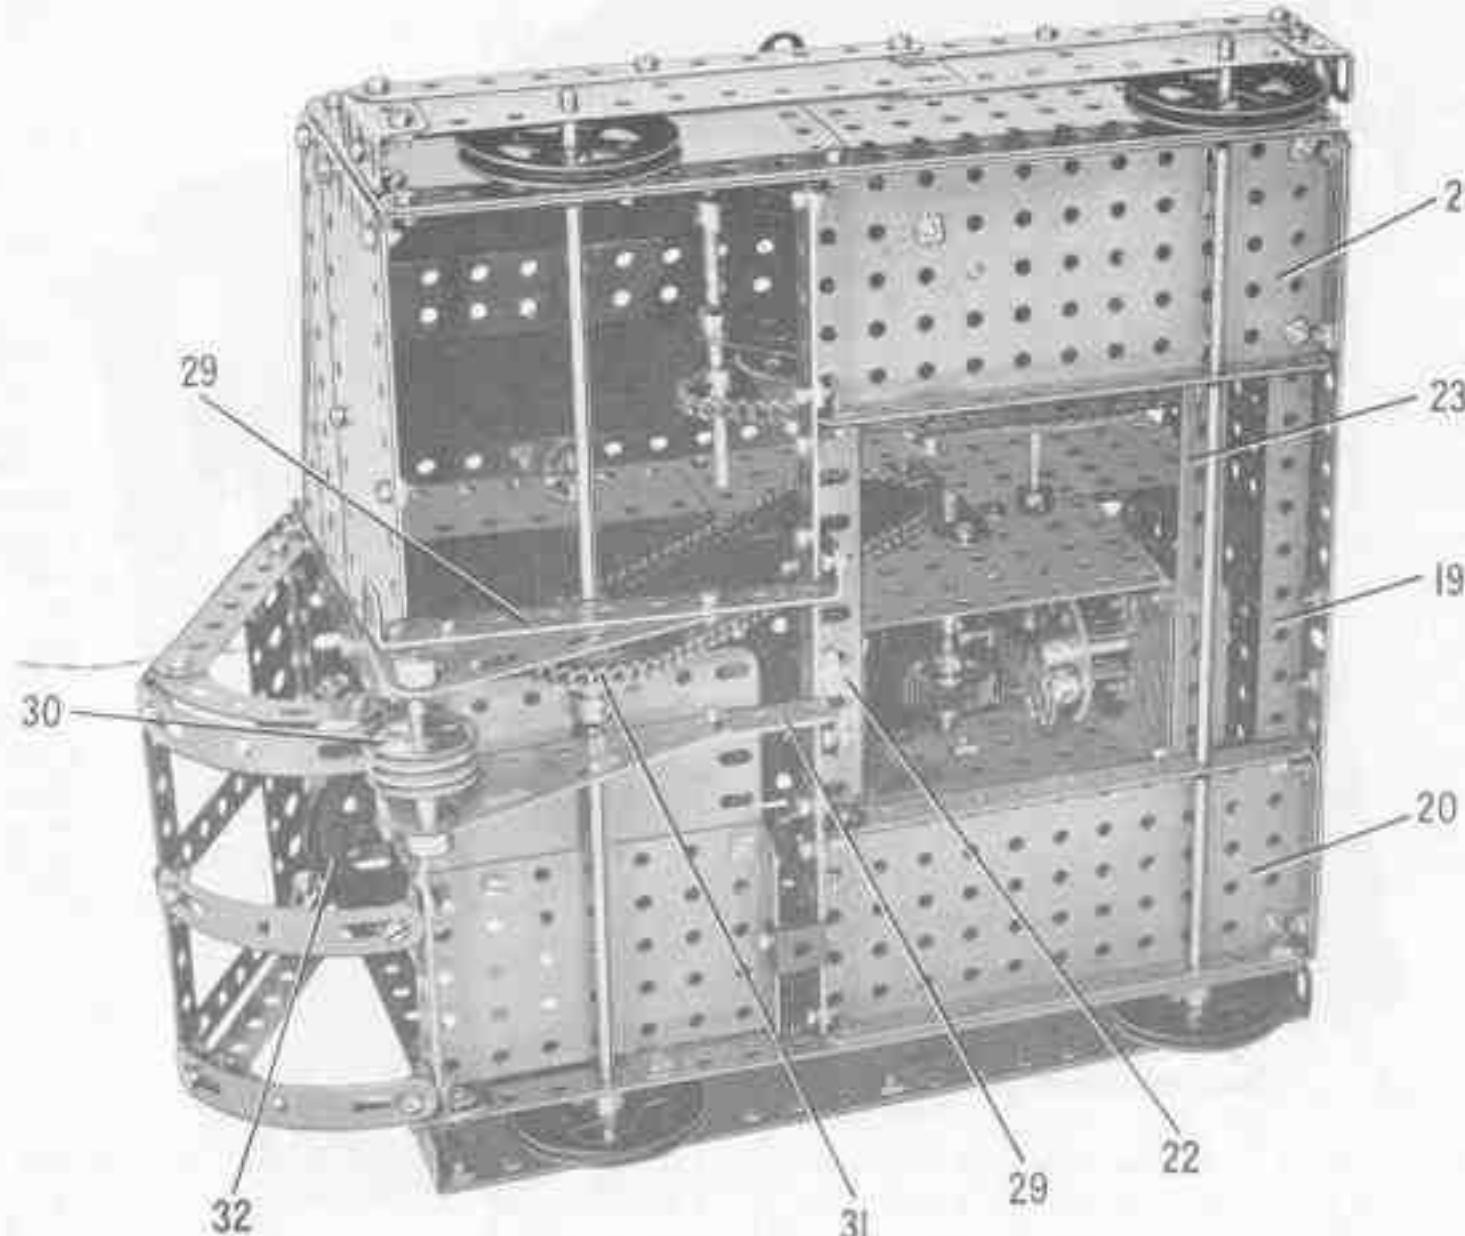
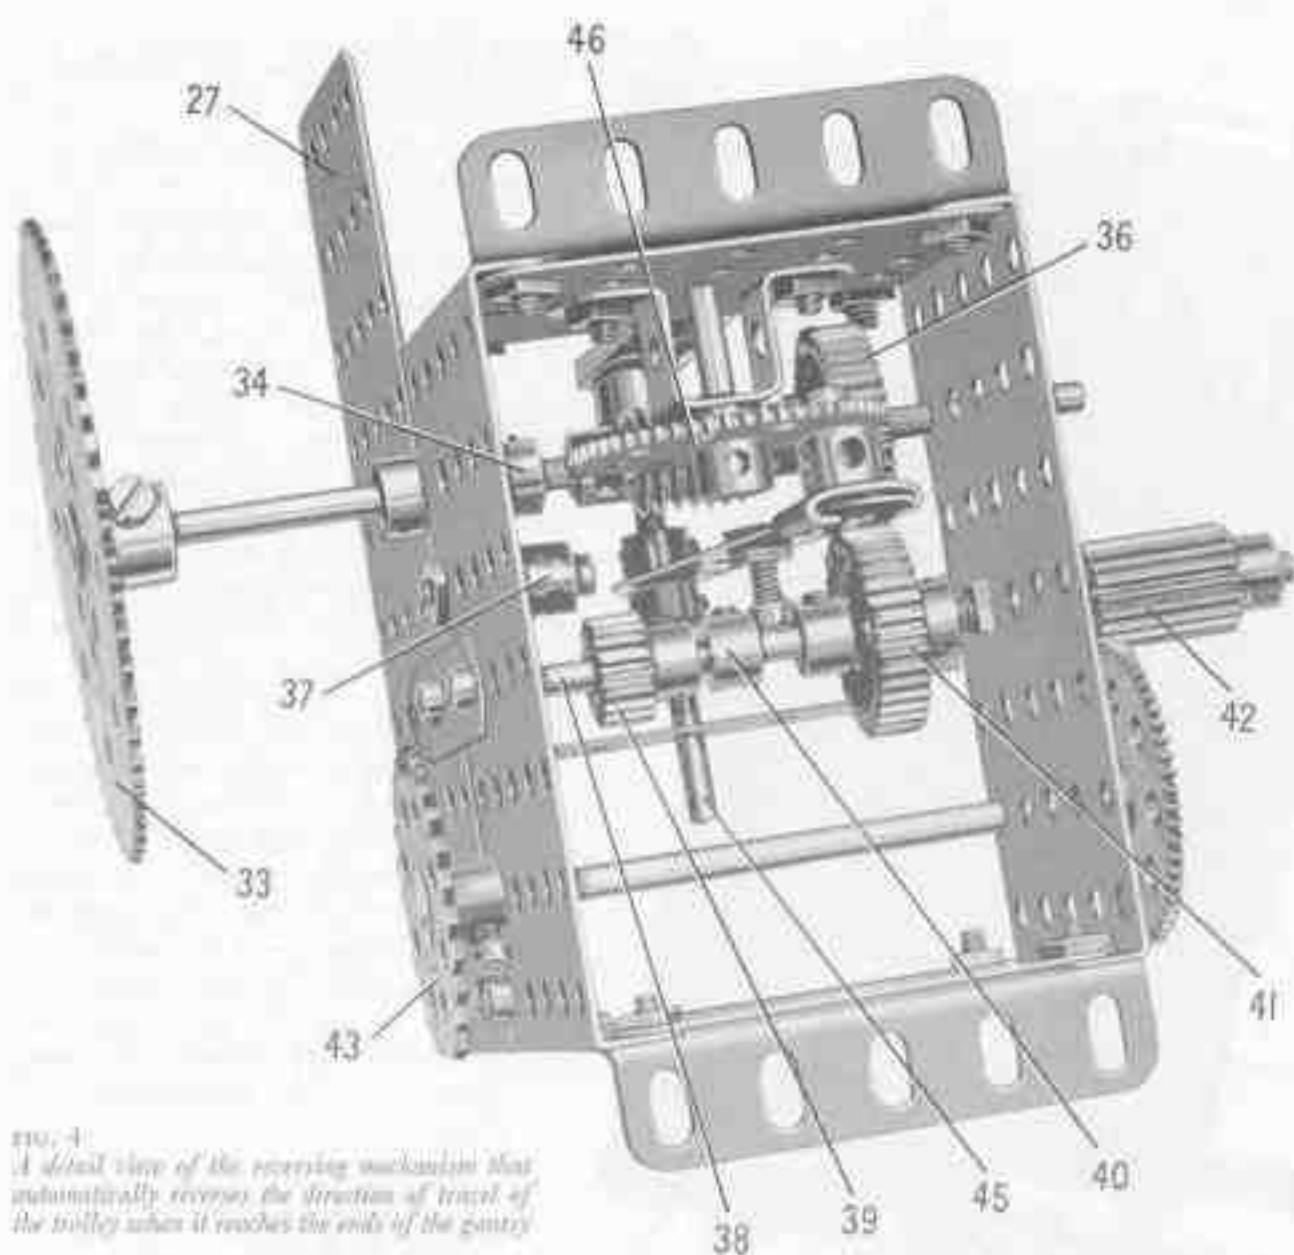
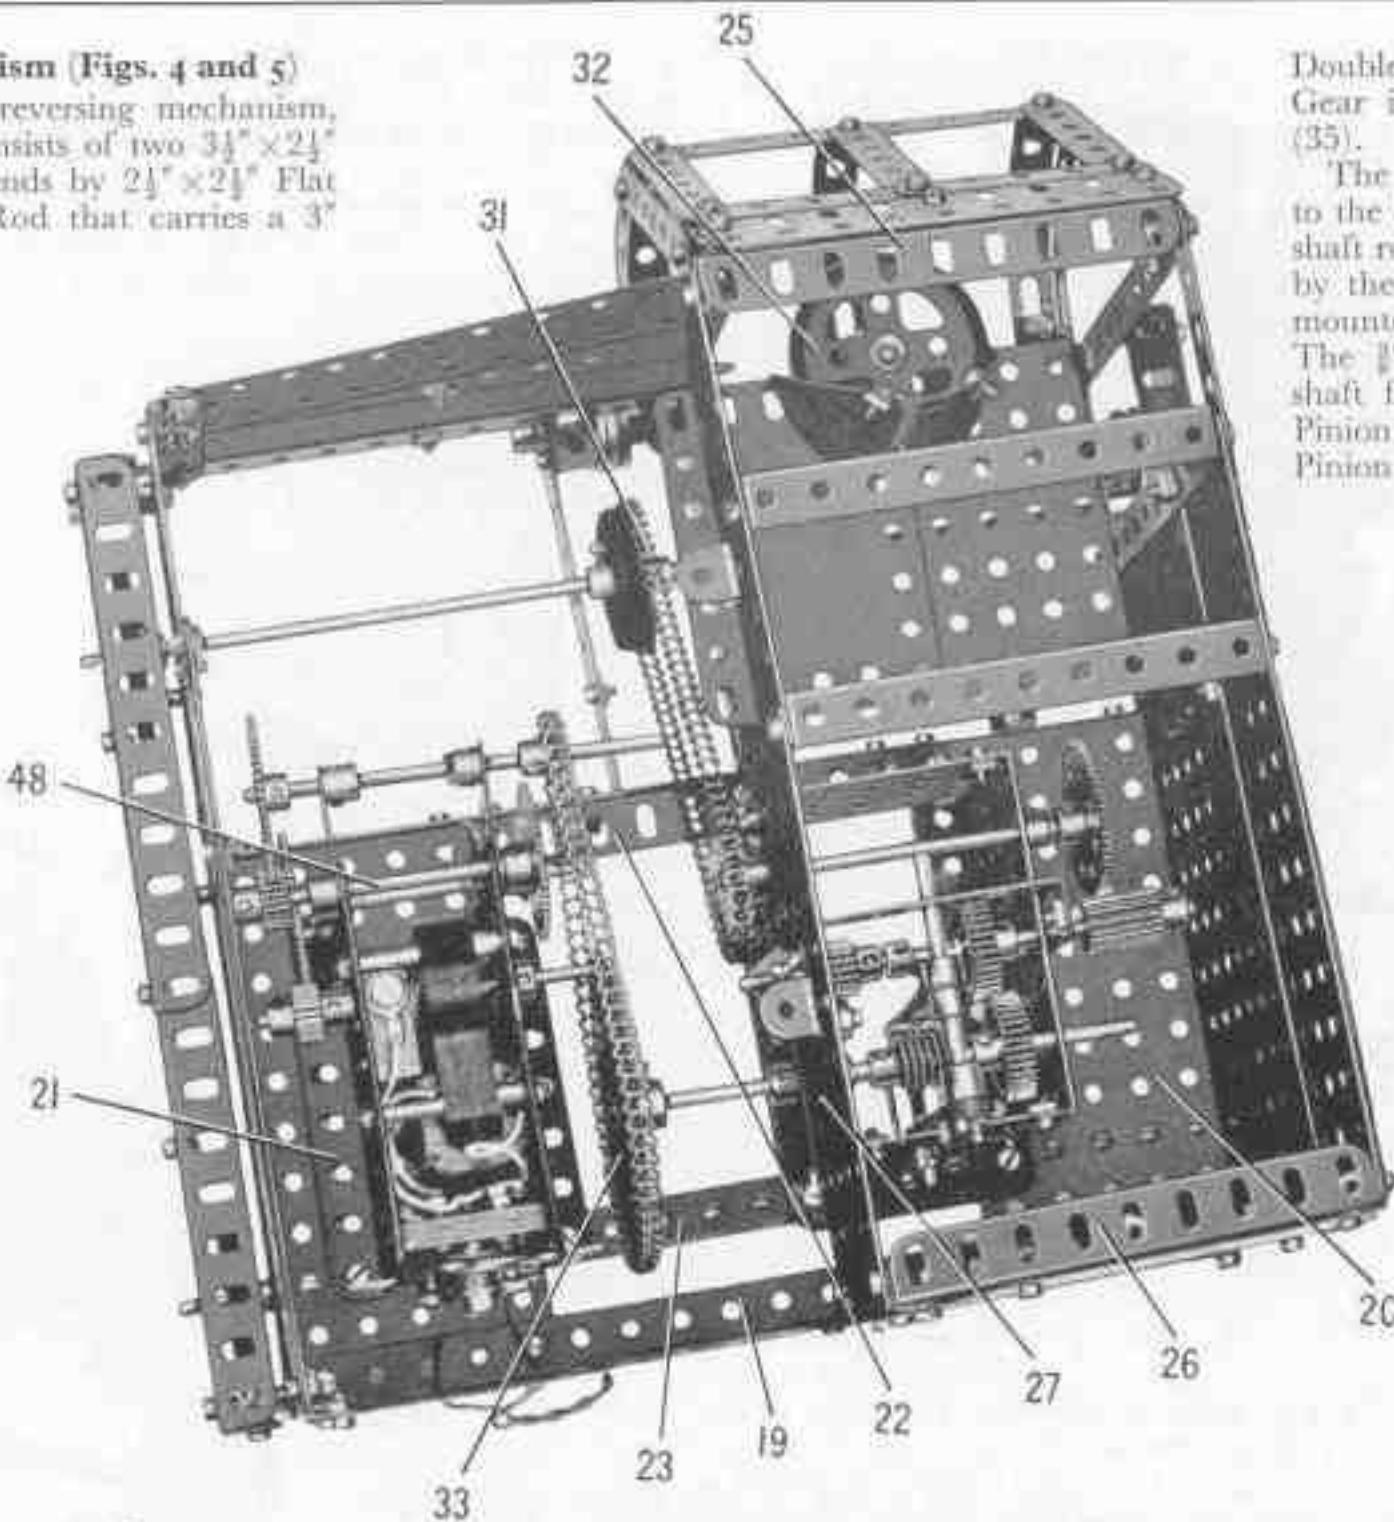
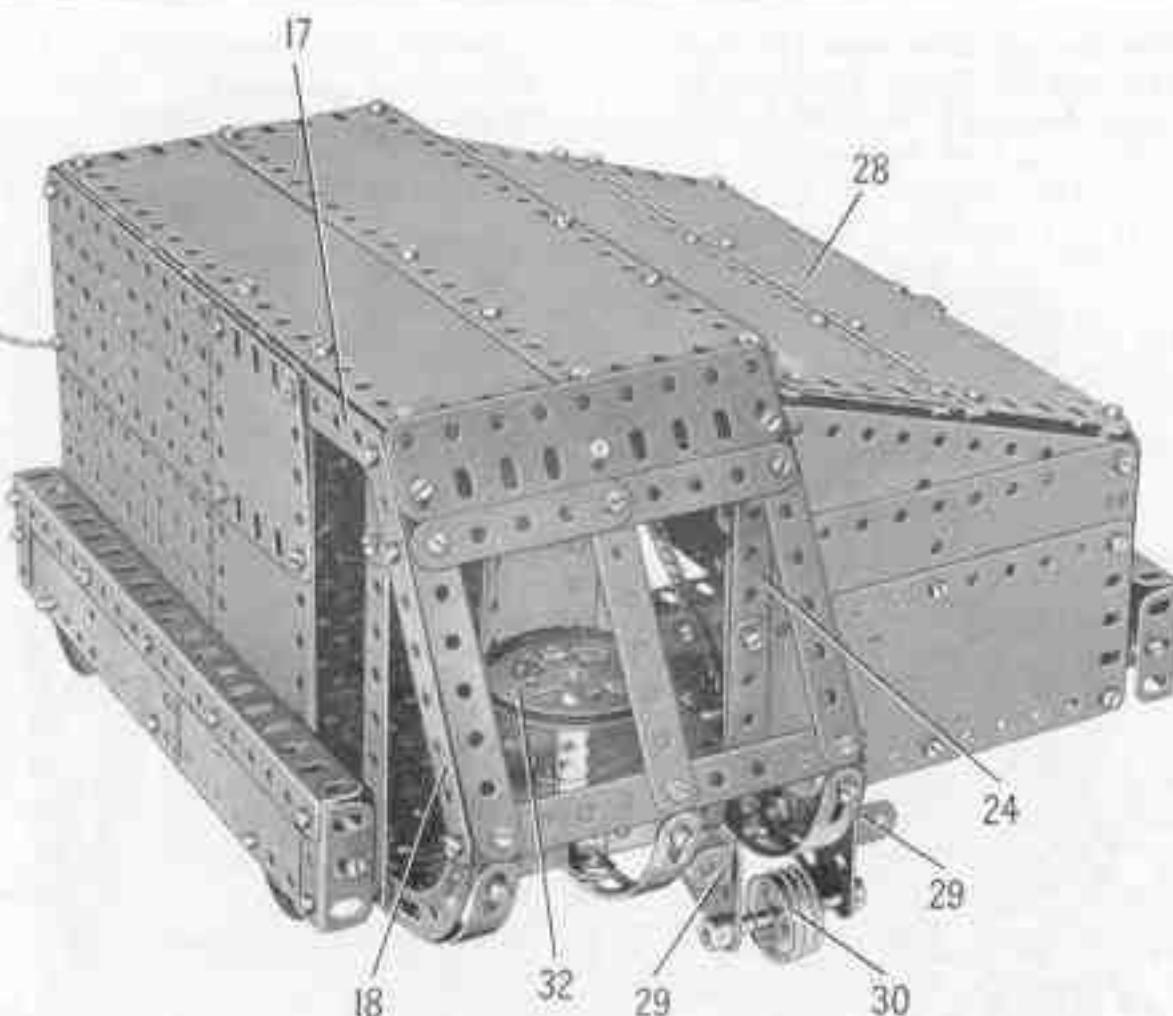

FIG. 3. The trolley seen from underneath, showing the axle mountings and the friction drive fitted to the front axle.
FIG. 4
FIG. 6
FIG. 7
Details of the Trolley (Figs. 3, 6 and 7)
The side seen in Fig. 7 is made by bolting a $5\frac{1}{2}'' \times 3\frac{1}{2}''$ Flat Plate, a $5\frac{1}{2}'' \times 2\frac{1}{2}''$ Flat Plate, a $3\frac{1}{2}'' \times 2\frac{1}{2}''$ Flexible Plate and a $2\frac{1}{2}'' \times 2\frac{1}{2}''$ Flexible Plate to a $9\frac{1}{2}''$ Strip that forms the lower edge of the side. The rear edges of the Flat Plates are strengthened by a $5\frac{1}{2}''$ Angle Girder, and a $5\frac{1}{2}''$ Strip is bolted inside the front edges of the Flexible Plates. A $7\frac{1}{2}''$
Two $5\frac{1}{2}'' \times 2\frac{1}{2}$ " Flanged Plates (20) and (21) are fixed to the Angle Girder (19) and to the sides of the carriage, and are connected at their inner ends by a $9\frac{1}{2}$ " Strip that supports a $4\frac{1}{2}$ " Angle Girder (22) (Fig. 3). A $3\frac{1}{2}$ " Strip (23) is bolted across the Flanged Plates.
The front of the trolley is partly filled in by a $5\frac{1}{2}'' \times 2\frac{1}{2}$ " Flexible Plate and two $5\frac{1}{2}'' \times 1\frac{1}{2}$ " Flexible Plates, one of which is bolted at an angle as shown in Fig. 7. The inner edges of these Plates are attached to a built-up strip (24) (Fig. 7) made from a $3\frac{1}{2}$ " and a $2\frac{1}{2}$ " Strip, and to this is fixed a $4\frac{1}{2}$ " Angle Girder (25), which is connected by an Angle Bracket to the Strip (18).
The back of the trolley is filled in by a $5\frac{1}{2}'' \times 3\frac{1}{2}$ " Flat Plate bolted vertically to the rear flange of the Flanged Plate (20) and to the $5\frac{1}{2}$ " Angle Girder of the side seen in Fig. 1. Another $5\frac{1}{2}'' \times 3\frac{1}{2}$ " Flat Plate is bolted horizontally to the flange of the Flanged Plate (21) and to the $3\frac{1}{2}$ " Angle Girder of the corresponding side. A vertical $5\frac{1}{2}'' \times 1\frac{1}{2}$ " Flexible Plate is fixed between the two Flat Plates, with another $5\frac{1}{2}'' \times 1\frac{1}{2}$ " Flexible Plate bolted at an angle between the vertical Flexible Plate and the top outer corner of the horizontal $5\frac{1}{2}'' \times 3\frac{1}{2}$ " Flat Plate. A $4\frac{1}{2}$ " Angle Girder (26) (Fig. 6) is fixed in position.
A $5\frac{1}{2}'' \times 2\frac{1}{2}$ " Flat Plate (27) (Fig. 6) is bolted to a $2\frac{1}{2}$ " Angle Girder fixed to the back of the trolley, and is extended forward by a $5\frac{1}{2}'' \times 1\frac{1}{2}$ " Flexible Plate connected to the strip (24) (Fig. 7) by an Angle Bracket. Two $4\frac{1}{2}'' \times 1$ " Double Angle Strips are bolted between this assembly and the side of the trolley. The fixed section of the roof consists of two $9\frac{1}{2}'' \times 2\frac{1}{2}$ " Strip Plates and these are bolted to the Double Angle Strips and to the Angle Girders (25) and (26).
Two $4\frac{1}{2}'' \times \frac{1}{2}''$ Double Angle Strips (29) (Fig. 3) are attached by Fishplates to the Angle Girder (22), and are connected by Corner Angle Brackets to the front of the trolley. A $3\frac{1}{2}'' \times 1\frac{1}{2}''$ Triangular Flexible Plate, edged at the front by a $1\frac{1}{2}''$ Strip, is bolted to each Double Angle Strip, and these support a $2''$ Rod that carries three $1''$ loose Pulleys indicated at (30) Figs. 3 and 7.
The wheels on which the trolley is mounted are $2''$ Pulleys fixed on $1\frac{1}{2}''$ Rods. A $1\frac{1}{2}''$ Sprocket (31) (Fig. 3) is loose on the front Rod, but is pressed against a $1''$ Pulley (fitted with a Motor Tyre) by a Compression Spring placed between the Sprocket and a Collar. The $1''$ Pulley is fixed on the Rod, and this arrangement provides a friction drive that slips when the trolley reaches the stops at each end of the gantry, and continues to slip until the automatic mechanism reverses the direction of the drive and sends the trolley on its return journey.
The Automatic Reversing Mechanism (Figs. 4 and 5)
The mechanism housing is attached to the Girder (22) and the Strip (23) (Fig. 3) by $2\frac{1}{2}''$ Angle Girders, and one side of the housing is connected to the Flat Plate (27) (Fig. 6) by a $2\frac{1}{2}''$ Strip. At one end of the housing four $2\frac{1}{2}''$ Strips (44) (Fig. 5) are bolted face-to-face, and a $2\frac{1}{2}''$ Rod (45) is fixed in a Crank attached to these Strips. The other end of this Rod is supported in a $2\frac{1}{2}'' \times \frac{1}{2}''$ Double Angle Strip located as shown. A $3\frac{1}{2}''$ Strip is pivoted on Rod (45) between two Collars, and a $\frac{1}{2}''$ Bolt held in the Strip by two nuts engages between the Collar (40) and a second Collar. The lower end of the Strip passes through a Slide Piece (Fig. 4), which is fixed on a $\frac{3}{8}''$ Bolt pivoted in a hole in a 57-tooth Gear (46). The Gear (46) is fixed on a $1\frac{1}{2}''$ Rod, mounted in the end of the housing and in a Double Bent Strip bolted to it. The Rod is held in position by a Collar, and the Gear is spaced from the
The Sprocket (43) is connected by Chain to the Sprocket (31) (Fig. 3). As the driving shaft rotates the Gear (46) (Fig. 4) is rotated by the Worm, and so carries the $3\frac{1}{2}''$ Strip mounted in the Slide Piece from side to side. The $\frac{1}{2}''$ Bolt in the Strip moves the driven shaft from side to side also, and thus the Pinion (39) is moved into mesh with the Pinion (37) when the Rod (38) slides to the right, Fig. 5, and when the Rod moves to the left these Pinions disengage and the Gears (41) and (36) are brought into mesh. The duration of the drive in each direction can be varied by adjusting the positions of the Pinion (39) and the Gear (41). The adjustment should be arranged so that the drive in each direction is still engaged when the carriage reaches the stops (47) at the ends of the gantry. These stops are $1\frac{1}{2}''$ Strips. It is important to adjust the 57-tooth Gear on the $4''$ Rod so that it remains in mesh with the Pinion (42) irrespective of the position of Rod (38).
Power Unit and Reduction Gearing (Fig. 6)
A length of Cord is tied at one end to the girder (14) and is taken over one of the Pulleys (30) on the trolley (Fig. 7) and round one of the Pulleys (49). Then the Cord is passed round the centre one of the Pulleys (30) and the second Pulley (49), and then taken over the third Pulley (30) and led back along the gantry, where it is tied again to the girder (14). When the trolley is nearest to the points where the Cord is attached to the girder, the pulley block should be at ground level. As the carriage moves along the gantry the pulley block is raised automatically, and then is lowered again when the carriage returns to its starting point.